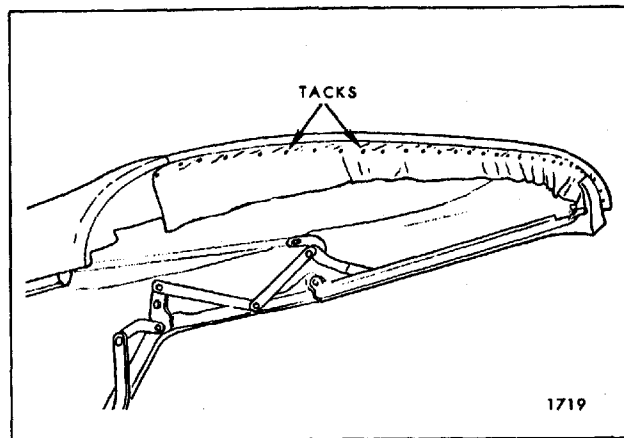

Fig. 6-44—Installation Of Top Material To Front Roof Rail
29. Unlock top from windshield header and apply nitrile cement or neoprene-type weatherstrip adhesive to tacking area of front roof rail and corresponding surface of top material. Pull top trim material slightly forward so that pencil marks are on underside of front edge of front roof rail. Fasten top trim to cemented area and stay tack trim to rail (Fig. 6-44).